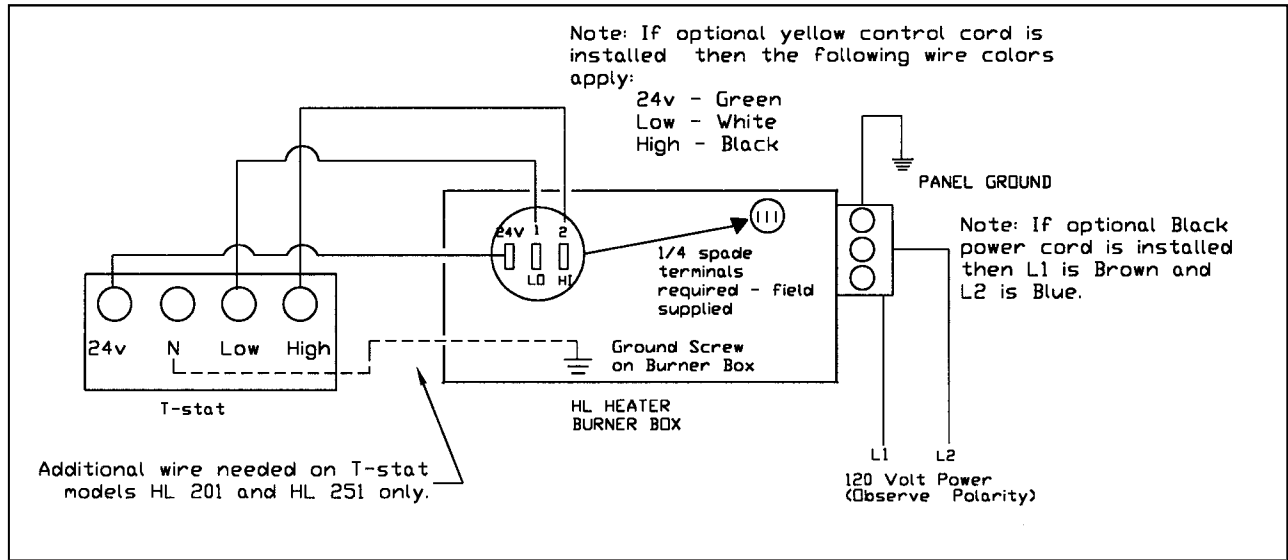

Figure 2-32
**NOTE:** A HL unit without a relay board (HLRB) supplies its own control voltage. (See Figures 2-32, 3-1 and 3-2 for general wiring diagrams).